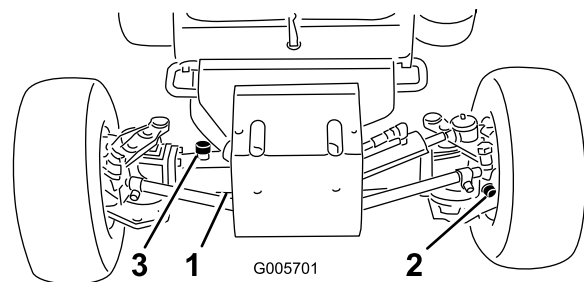

Figure 31
2. Remove check plugs from axle and make sure lubricant is up to bottom of each hole. If level is low, remove fill plugs and add enough lubricant to bring the level up to the bottom of the check plug holes (Figure 31).